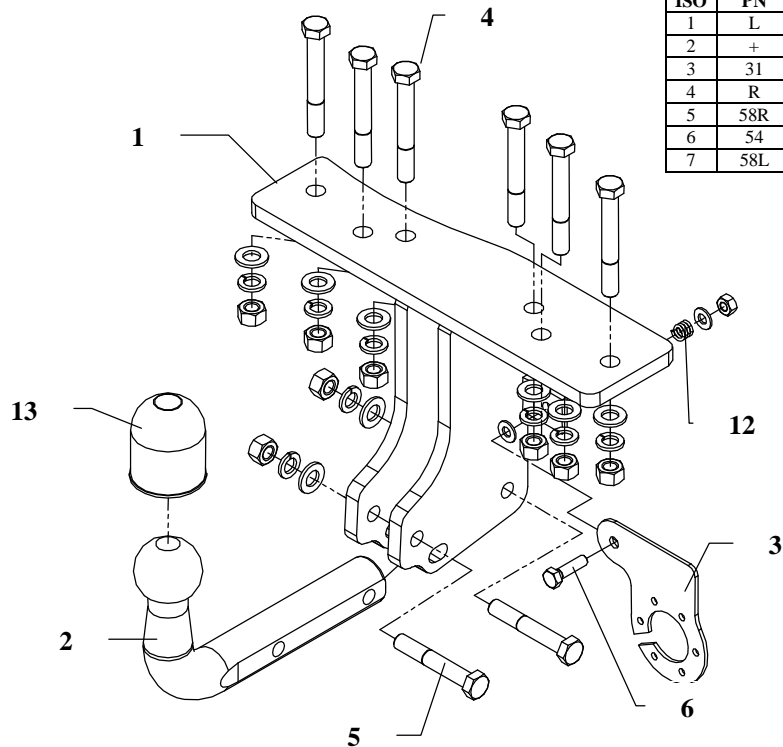
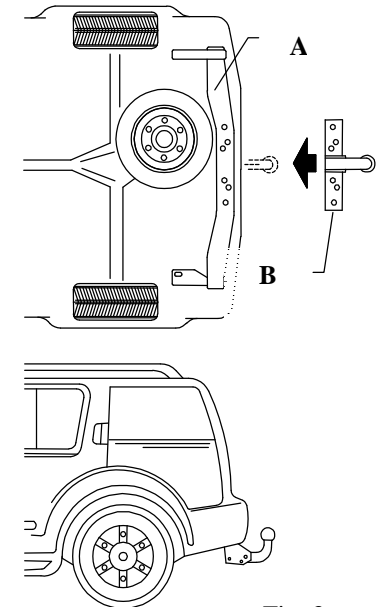

Fig. 1
Fig. 3
2. Unscrew original bar (pos. A, fig. 3) from chassis frame.
3. Fix main bar of the towbar (pos. B, fig. 3) to unscrewed bar (pos. A, fig. 3) using bolts M12x90mm (pos. 4).
5. Reinstall bar (pos. A, fig. 3) to chassis members.
6. Fix tow-ball (pos. 2) using bolts M12x75mm (pos. 5) from accessories.
7. Fix the socket plate (pos. 3) as shown on the fig. 1.